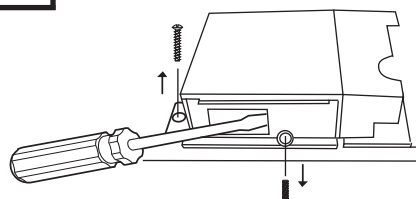

Fig. 78
- Slide power board slightly out to make room to accept terminal block on the power board pin connections as shown in Fig. 78*.